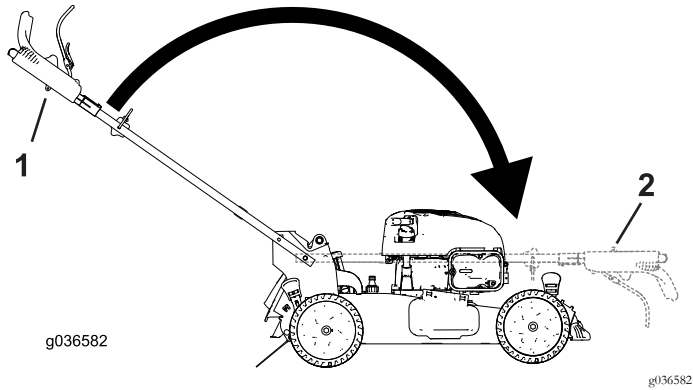

Figure 30
2. Fold the handle by rotating it forward (Figure 30).